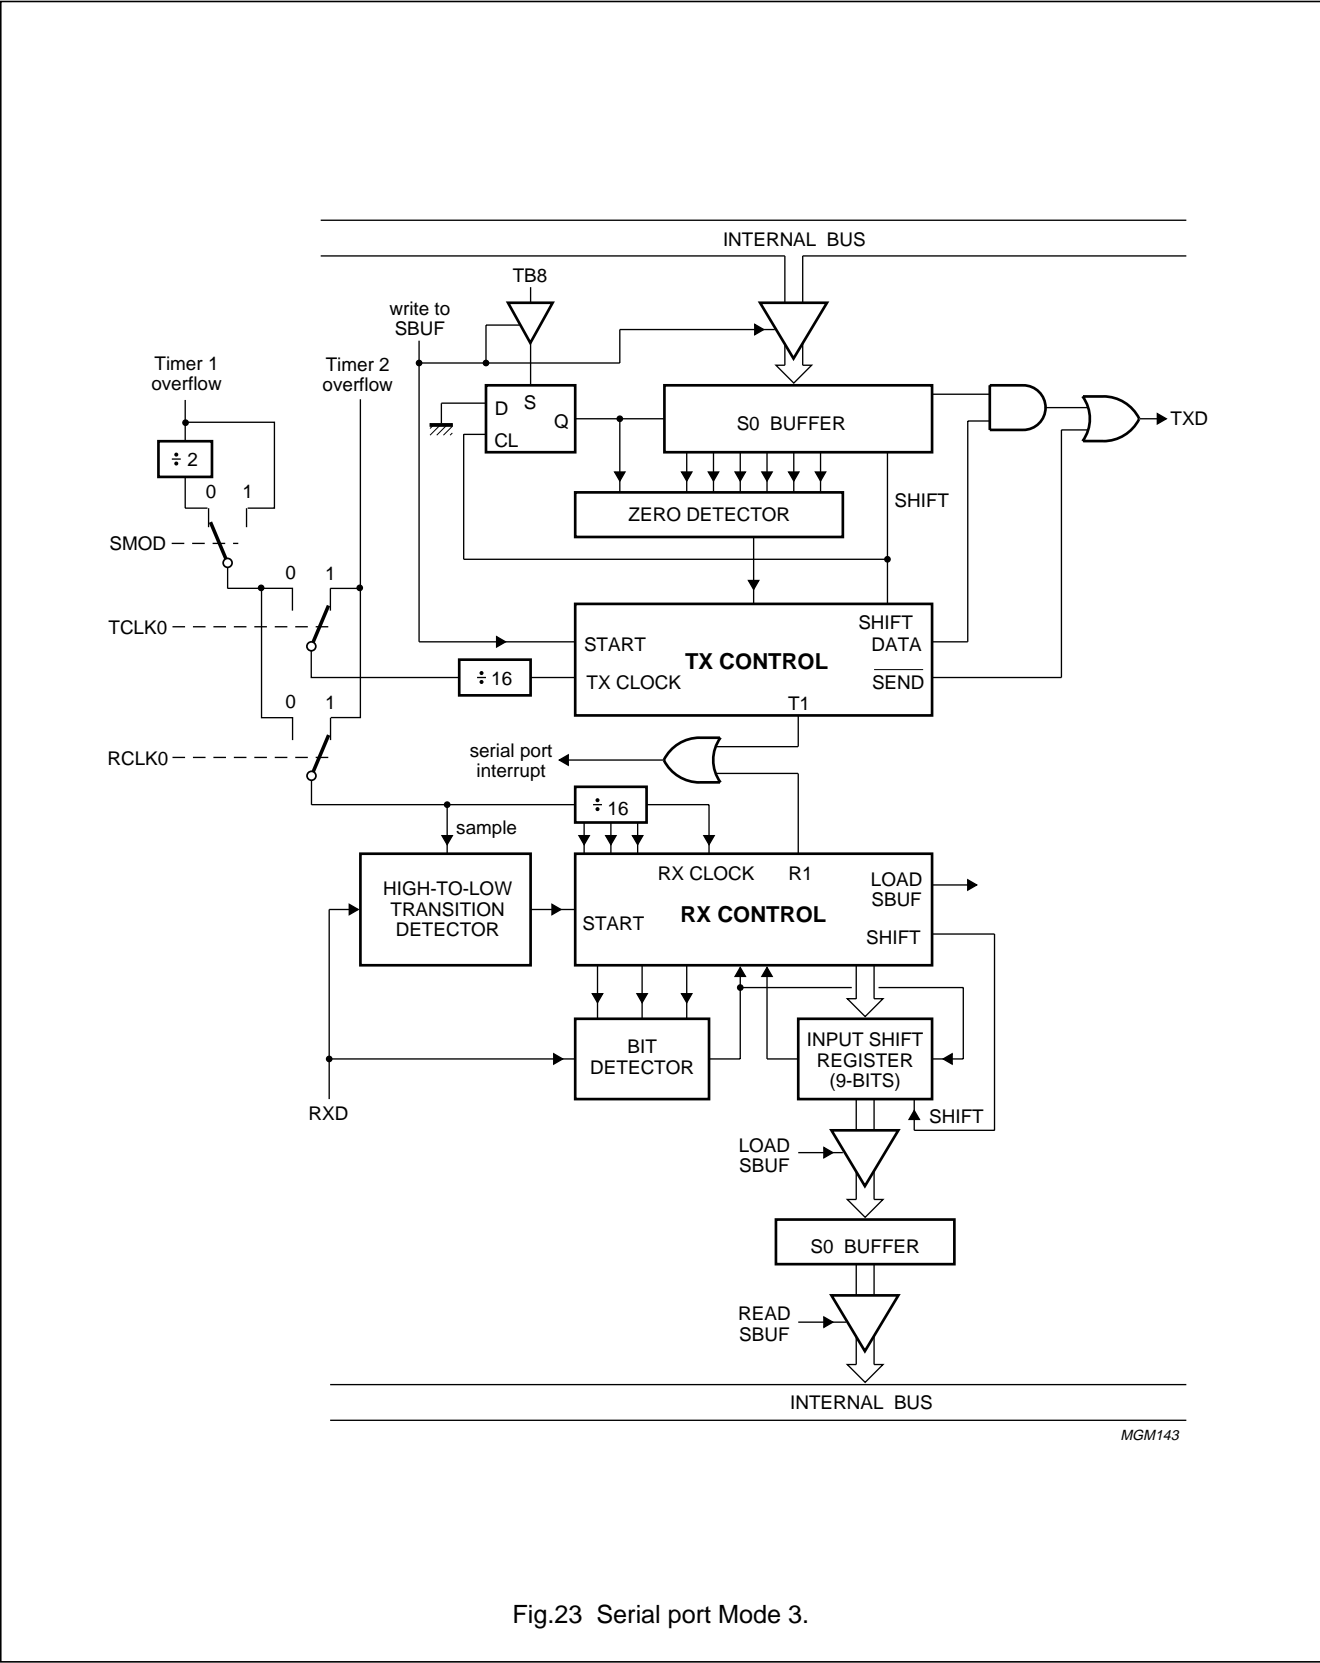

Fig.23 Serial port Mode 3.
- Mode 3 11 bits are transmitted (through TXD) or received (through RXD): a start bit (logic 0), 8 data bits (LSB first), a programmable 9th data bit and a stop bit (logic 1). In fact, Mode 3 is the same as Mode 2 in all respects except baud rate. The baud rate in Mode 3 is variable. See Figs 23 and 24.